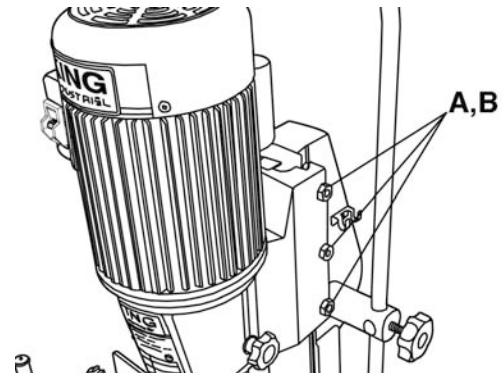

Figure 19
Loosen hex. nuts (A) Fig.19 which secure set screws (B). Screw in set screws until movement is eliminated. Once adjustment is done, retighten hex. nuts.